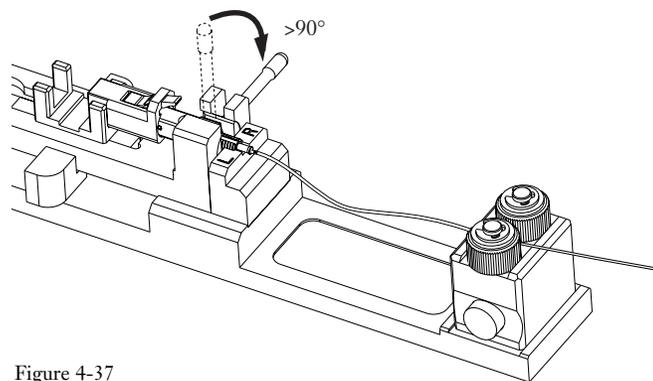

Figure 4-37
**4.8-4** Rotate the wrench down until it stops (Figure 4-37). It is normal for the wrench to rotate beyond 90°.